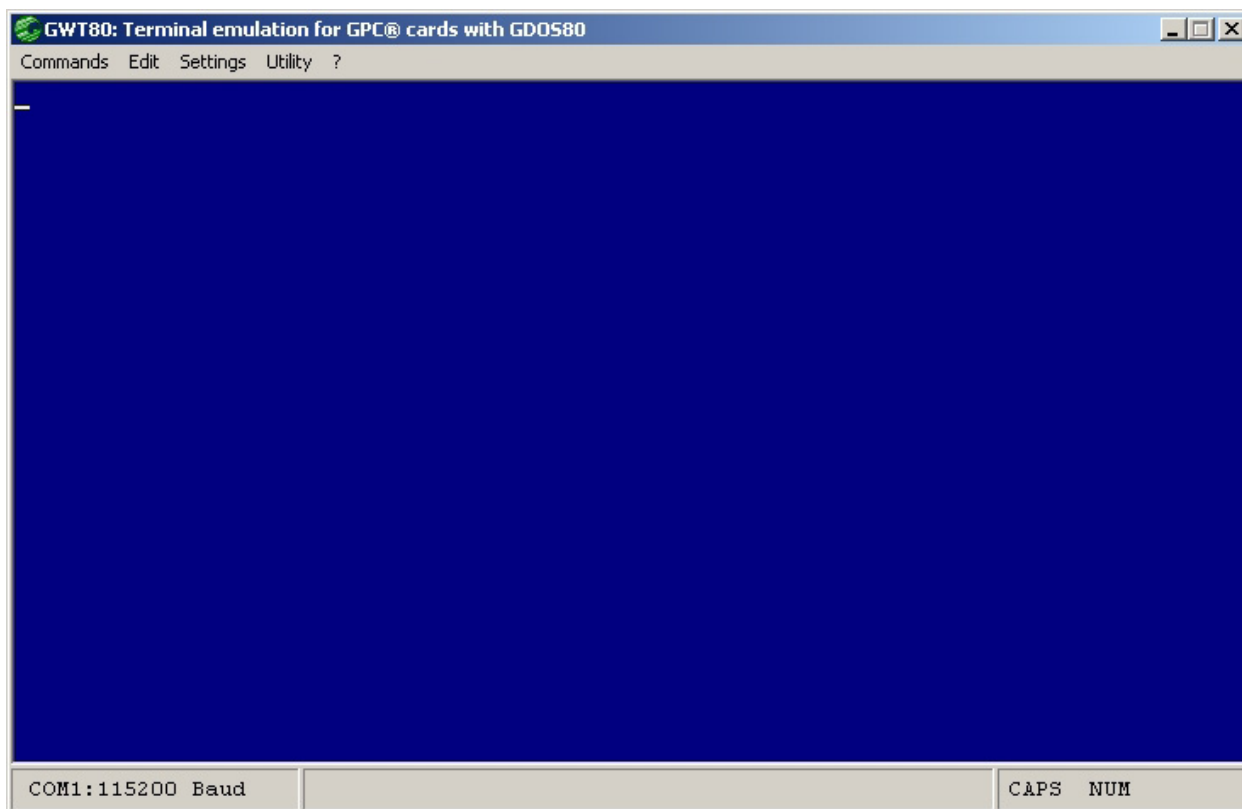

FIGURE 7: MAIN WINDOW
- 16) Now the displayed main window is those shown in figure 7, with the bottom status row that can be different according to settings performend in point 15 and current keyboard status.
- Shows the terminal emulation window completely clear, that coincides with the main window of **GWT80**, described in figure 7. On the same windows there are also five drop down menus that provided of many options, that are detailed described in the following paragraphs.